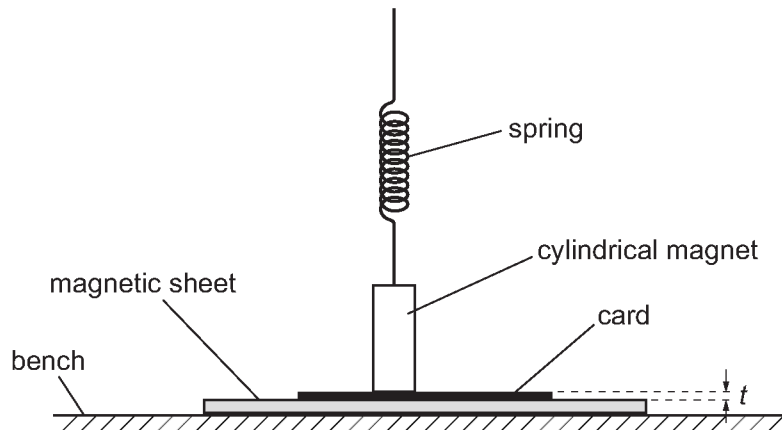

Fig. 1.1
- 1 A spring is attached to a strong cylindrical magnet of length L and cross-sectional area A . The magnet is placed on thin card on top of a magnetic sheet on the bench, as shown in Fig. 1.1.